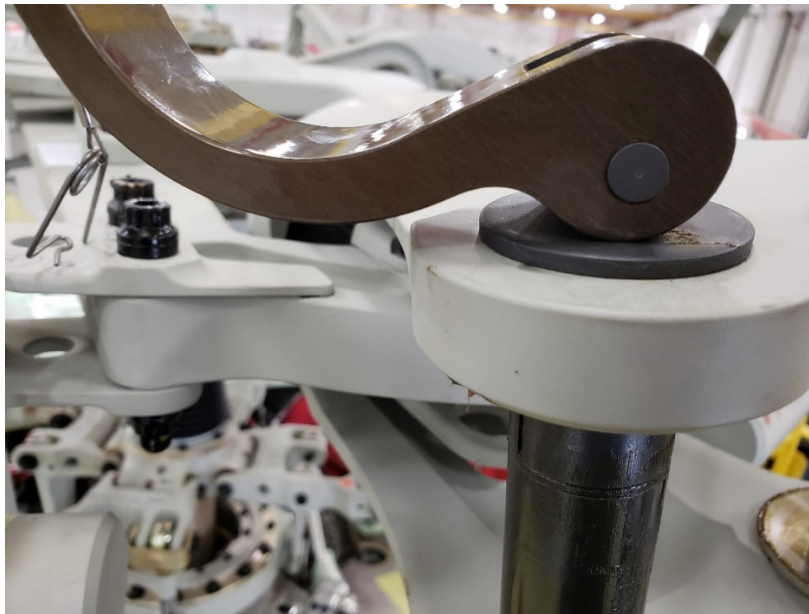

Figure 2 - Blade bolt handle in a relax position
- a. Remove the safety pin and un-latch the bolt handle (Figure 2). Ensure the handle is in a relax position and the bolt can turn freely indicating that the tension has been removed from the collars and the handle.
9. Remove the safety pin and un-latch the bolt handle (Figure 2). Ensure the handle is in a relaxed position and the bolt can turn freely indicating that the tension has been removed from the collars and the handle.